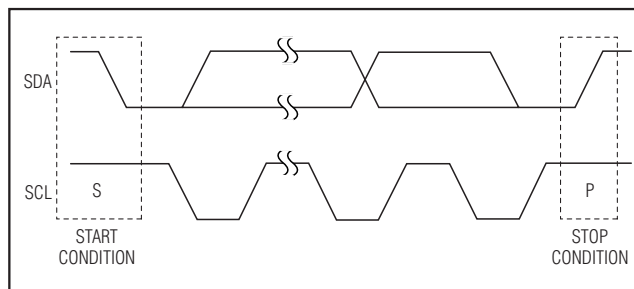
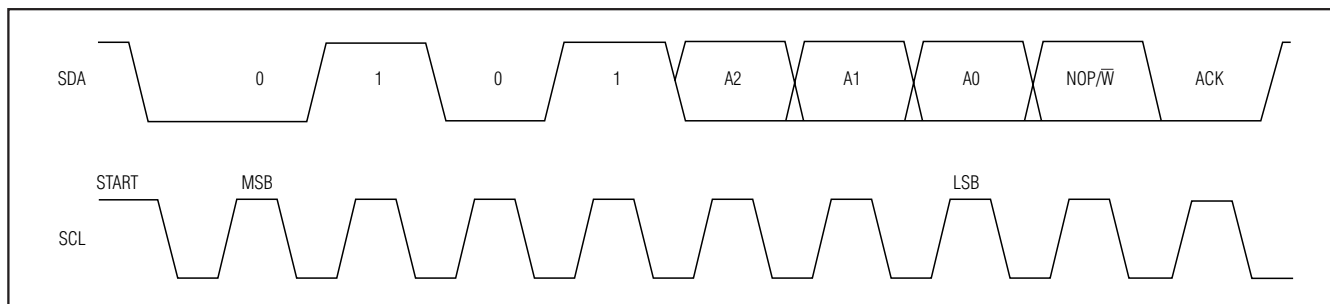

Figure 3. START and STOP Conditions
Figure 4. Slave Address
Each transmission consists of a START (S) condition (Figure 3) sent by a master, followed by the MAX5477/MAX5478/MAX5479 7-bit slave address plus the NOP/ \overline{W} bit (Figure 4), 1 command byte and 1 data byte, and finally a STOP (P) condition (Figure 3).
communicating with the slave. The bus is then free for another transmission (Figure 3).
The MAX5477/MAX5478/MAX5479 have a 7-bit-long slave address (Figure 4). The 8th bit following the 7-bit slave address is the NOP/ \overline{W} bit. Set the NOP/ \overline{W} bit low for a write command and high for a no-operation command.